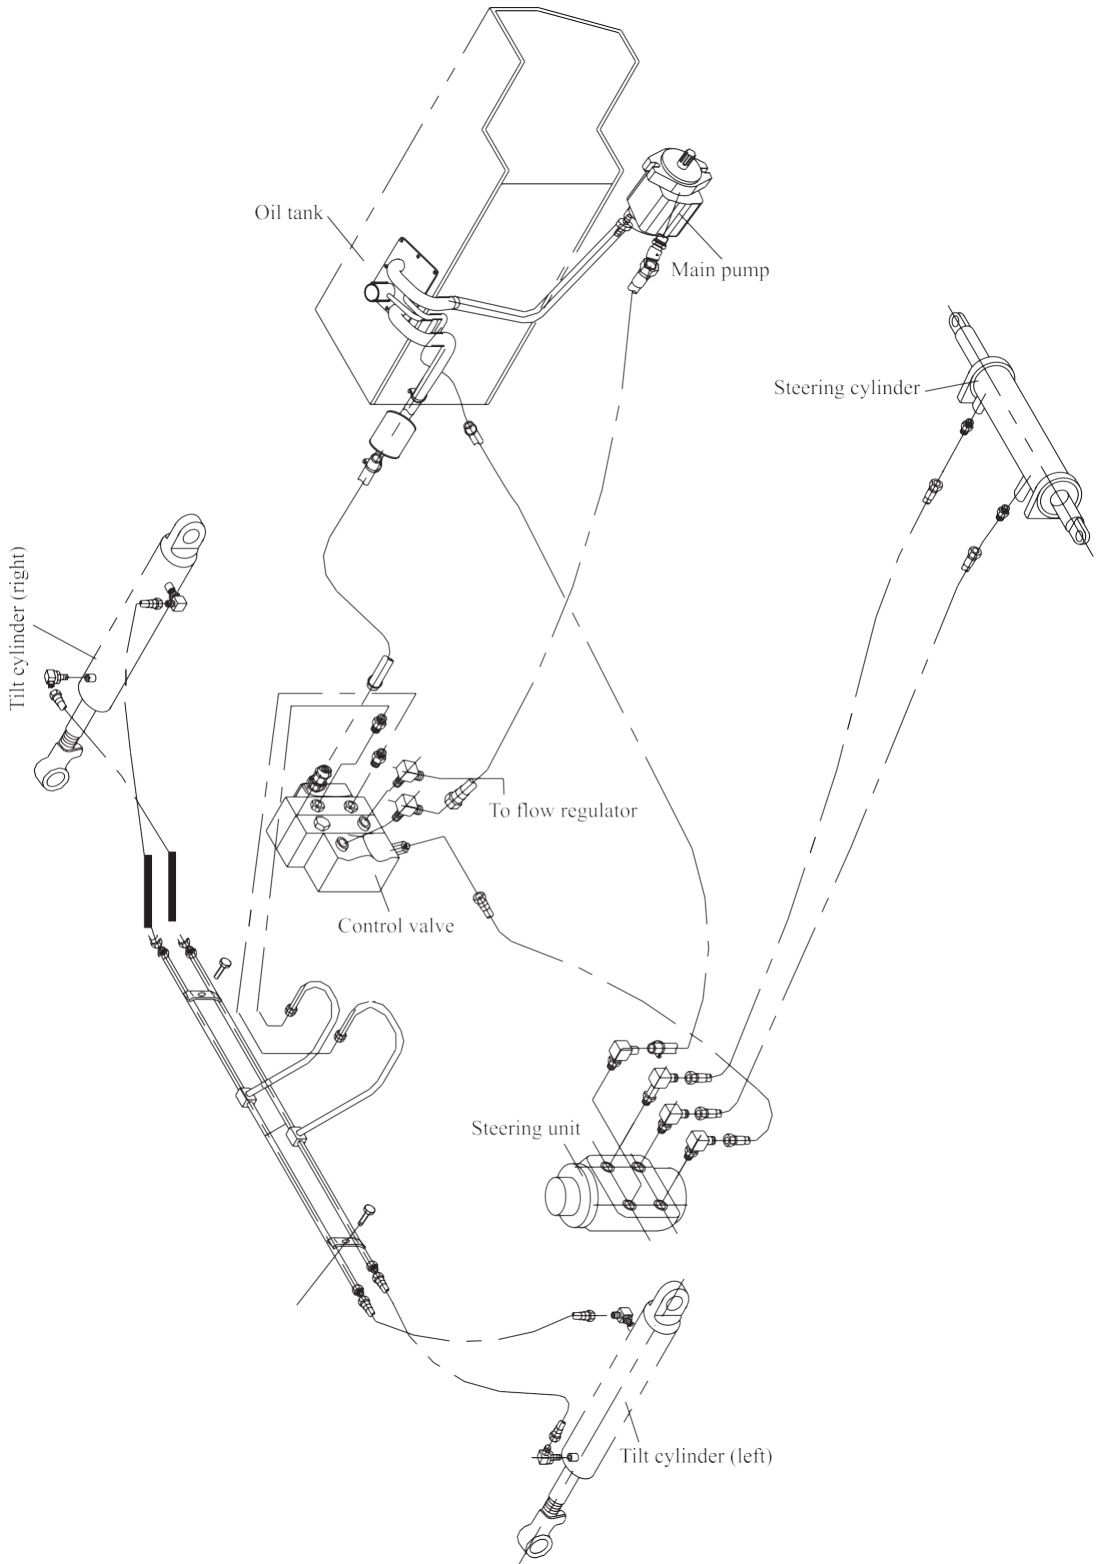

Fig.9-18 Hydraulic pipeline sketch
9.8.1 Disassembly (See Fig.9-18 & 9-19 import pump)
For the convenience of checking, it is recommended to place the disassembled parts in this order as shown in Fig.9-18 & 9-19.
(4) Seal inspection
a) Oil seal(14) (See Fig.9-18 & 9-19)
Fig.9-18 show the sketches of hydraulic pipeline.